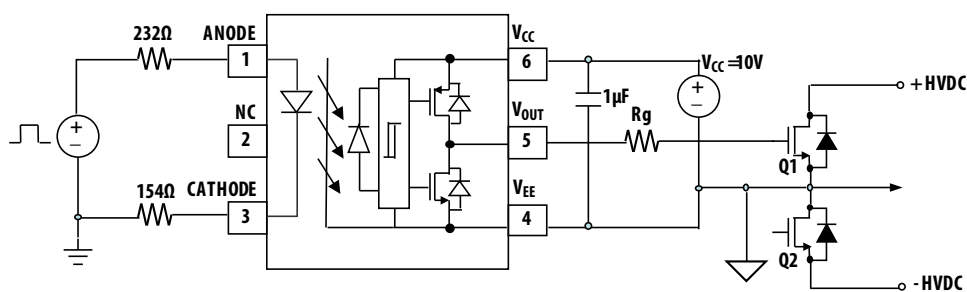

Figure 22. Recommended application circuit with split resistors LED.
The recommended application circuit shown in Figure 22 illustrates a typical gate drive implementation using the ACPL-P346.
Step 1: Calculate Rg minimum from the  $I_{OL}$  peak specification. The MOSFET and Rg in Figure 22 can be analyzed as a simple RC circuit with a voltage supplied by ACPL-P346/W346.
The ACPL-P346/W346 includes a Propagation Delay Difference (PDD) specification intended to help designers minimize “dead time” in their power inverter designs. Dead time is the time period during which both the high and low side power transistors (Q1 and Q2 in Figure 22) are off. Any overlap in Q1 and Q2 conduction will result in large currents flowing through the power devices between the high and low voltage motor rails.